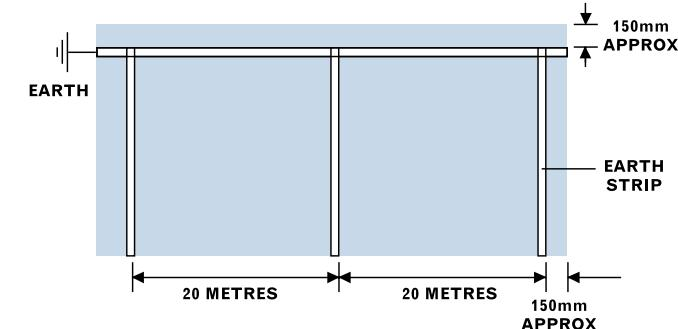

Figure 1 Earthing strip layout
8.5.1 Polyflor Static Dissipative (SD) range, OHMega EC and Polyflor EC
- ▶ The earth strip is laid 150mm from one side of the room, in the same direction as the vinyl sheets are to be laid. This strip is connected to a known earth (Fig 1).